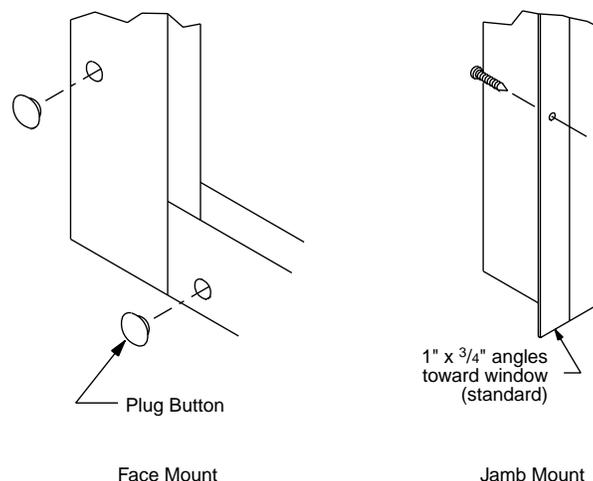

Figure 11
- B. For face mount, side channel mounts on the surface of the wall or window mullion. Fasteners go through the side channels. Plug buttons should be used to cover holes (access and mounting holes will be pre-drilled— see Fig. 11).
- C. For inside or jamb mount, a mounting angle has been attached to the side channels. Install side channel with mounting angle toward window, if depth will allow, so it is not visible (it can also be installed toward the room—see Fig. 11). Caulking may be necessary for complete blackout.